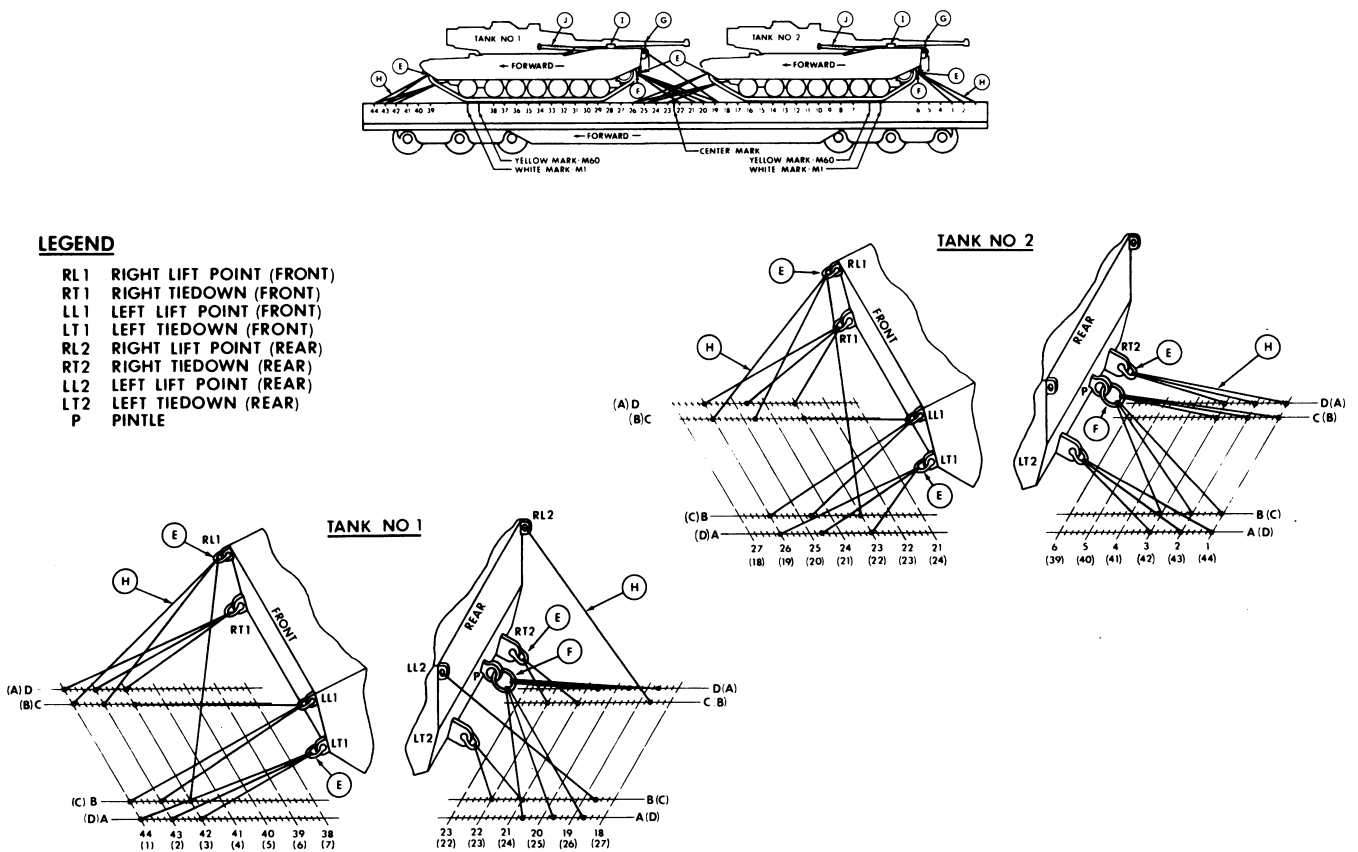

Figure 7-1. Tiedown diagram for two M1-series tanks facing one direction on 140-ton DODX flatcar.
(5) Each turnbuckle in the chain tiedown assemblies must have adequate lubrication ("Rust Veto" Corrosion Preventive Compound MIL-C-16173, Grade 4 or equivalent) to assure smooth operation during tensioning. After tensioning is completed, 15 to 25 foot-pounds of torque must be applied to the jamnut, and the bare threaded areas of the turnbuckle must be lubricated to prevent rusting during transit.
(6) The shackles and links for attaching the chains to the M1-series tanks are furnished with the 140-ton flatcar.
(7) The ratchet-type handbrake lever is located on the side of the car below the level of the deck. In this position, the brake lever is operated from the ground and does not interfere with loading or unloading.
b. Before the M1-series tank is loaded, the chain anchors must be placed in the proper position as shown in figures 7-1 and 7-2. Color-coded positions are provided on the flatcar for placement of tiedown anchors for tanks. White is for M1 tanks; yellow is for M60-series tanks. Stenciled on these
painted positions are the tiedown attachment points on the applicable tank except for tanks that have the M9 bulldozer installed. Stenciled attachment positions are illustrated in figures 7-1 and 7-2 and described in tables 7-1 through 7-5. Chains attached to the anchors must be placed in piles in the center of the flatcar.
c. When two M1-series tanks are loaded (fig 7-1), the forward left-hand road wheel of tank No. 1 should be centered over the yellow mark on
Table 7-2. Application of Materials for Securing Two M1 Tanks Loaded Front to Tail On 140-Ton DODX Flatcar (Fig 7-1).
Table 7-4. Application of Materials for Securing Two M1 Tanks in the Opposite Direction From That Shown in Figure 7-1 (For location of "items," refer to figure 7-1).